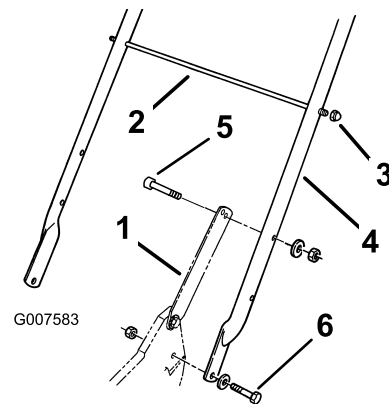

Figure 3
x 1-1/4 inches), washers, and thin locknuts (5/16 inch) (Figure 3).
2. Secure the handle latches to the handle with 2 bolts (5/16 x 1-1/2 inches), washers, and locknuts (5/16 inch) (Figure 3).
- Slide the bag support rod through the second from the top mounting holes in the handle and secure each end with a cap locknut (Figure 3).